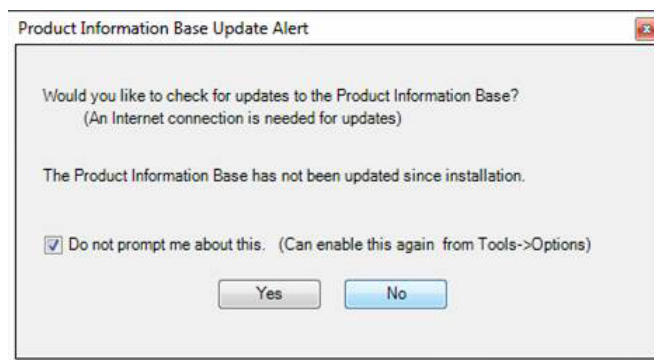

**Figure 17 Adapter Options**
3. At the next prompt, choose the desired adapter (Figure 17). If necessary, the selection can be changed at a later time through the OPTIONS menu.